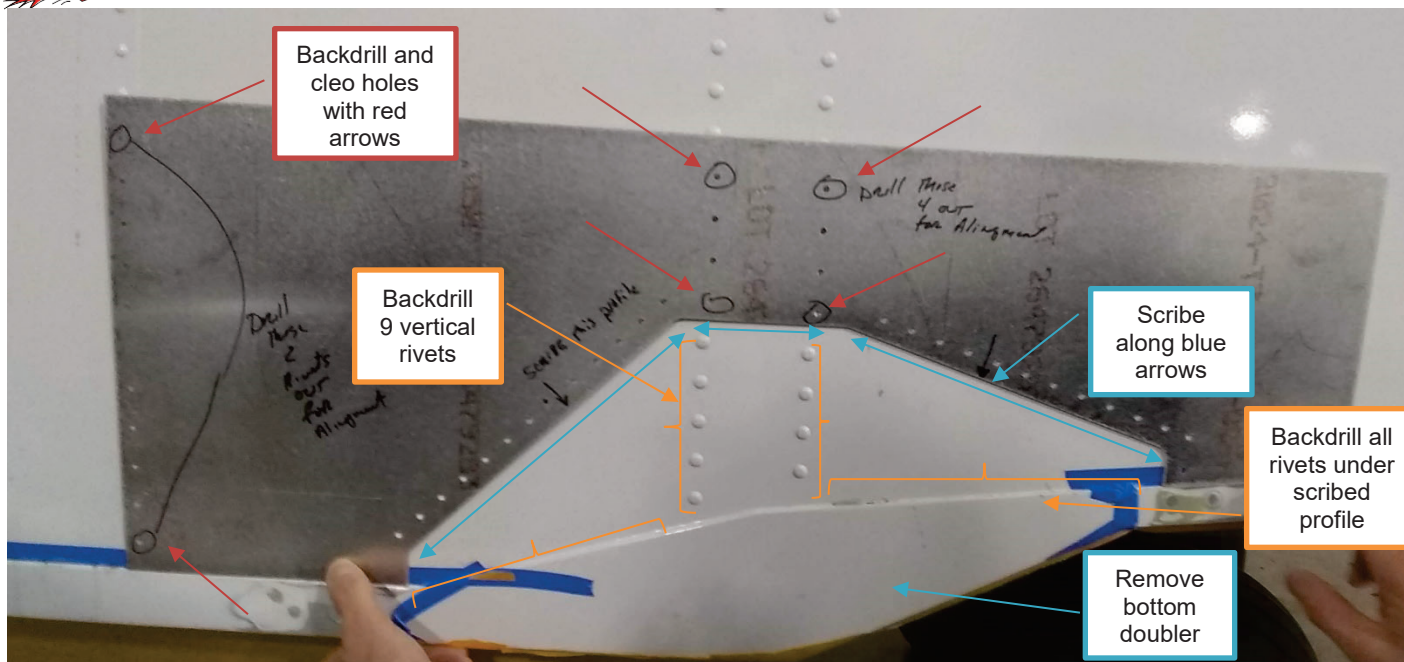

Figure 4
4. For alignment purposes, backdrill 6 holes on the template. (Top and bottom holes on left-hand side and 2 top and 2 bottom holes on center vertical holes (see Figure 4 red arrows for reference). Cleo template to float skin temporarily.
5. Backdrill 9 vertical rivets showing beneath template in the center and any additional rivets under the doubler in Figure 4.